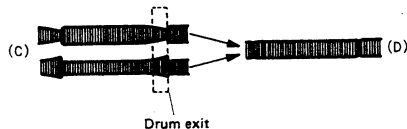

Fig. 2-20 Drum exit waveform adjustment
11. If the portion at the drum exit appears as shown by (C) in Fig. 2-20, adjust the take-up guide roller to obtain a flat waveform as shown by (D).